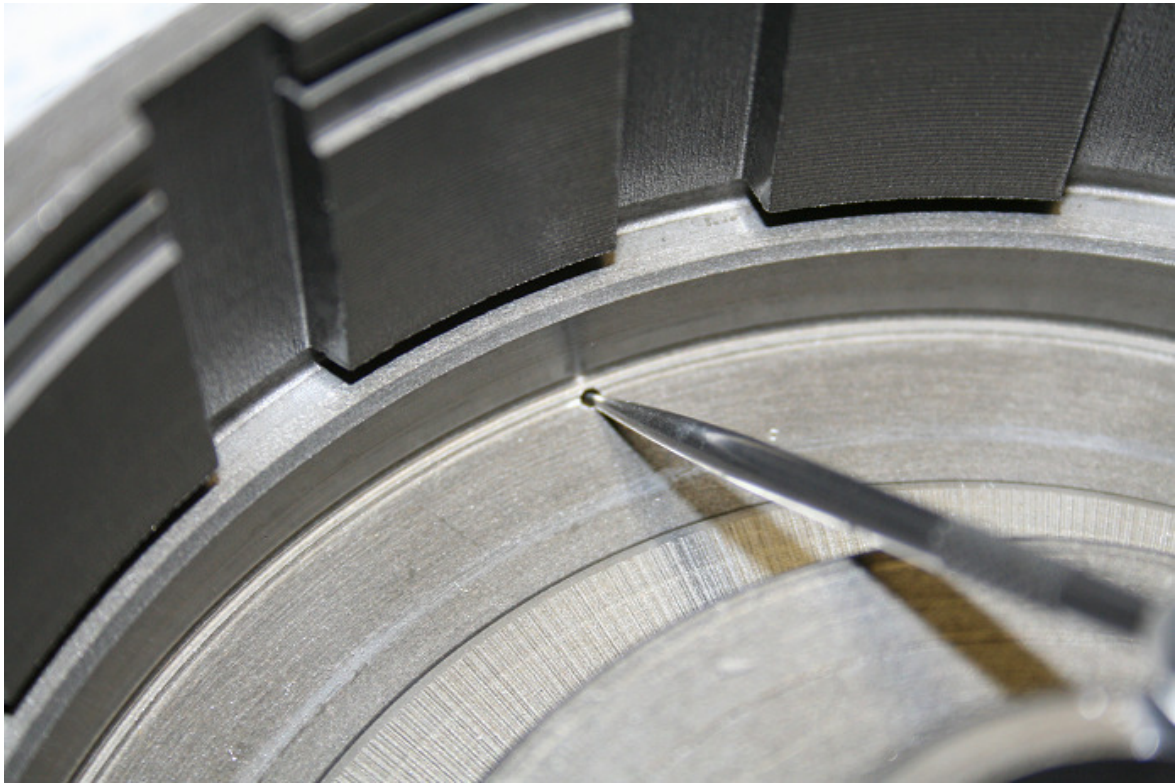

Figure 1
3. Drill 1/16" hole in drum as shown in figure 1.